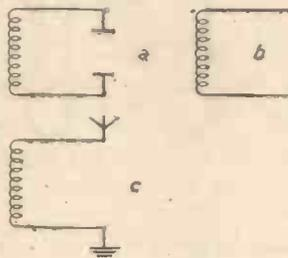

Fig. 10.—The open oscillatory circuit.
**R**EFERRING to Fig. 8, let us open out the plates of the condenser as in Fig. 10 (a), and then replace them with two wires—Fig. 10 (b)—finally replace one wire with the surface of the earth.
In all three cases we still have an oscillatory circuit, the difference being in the fact that as we separate the plates—Fig. 10 (a)—more energy is transformed to electro-magnetic radiation or radio waves. In Fig. 10 (c) one plate of the condenser is the familiar aerial and the other the earth. The oscillatory circuit, now said to be "open," together with a source of energy of the correct frequency, constitutes a simple continuous wave transmitter.